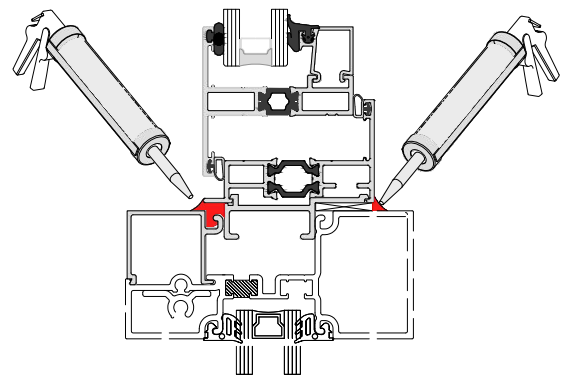

FIG. 8
- Apply Interior/Exterior seal around the frame and tool. See **FIG. 8**